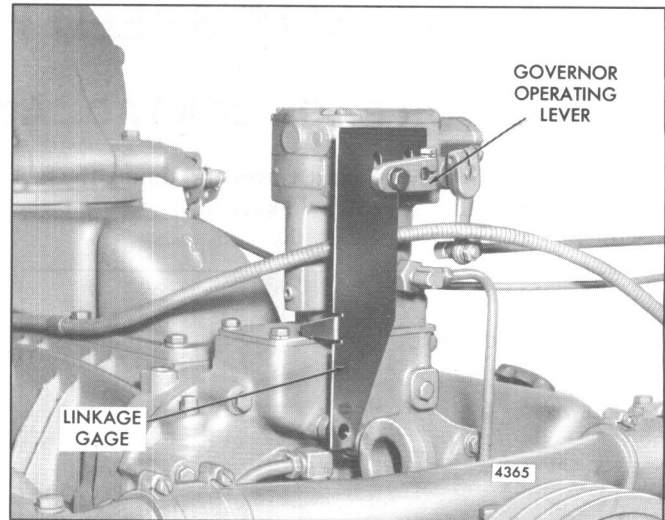

Fig. 4 – Positioning Governor Operating Lever
12. Replace the governor operating lever on the serrated shaft so that the bolt hole is lined up within the proper lines on the linkage gage (Fig. 4). The type of governor (SGX or PSG) will determine the proper position of the lever.